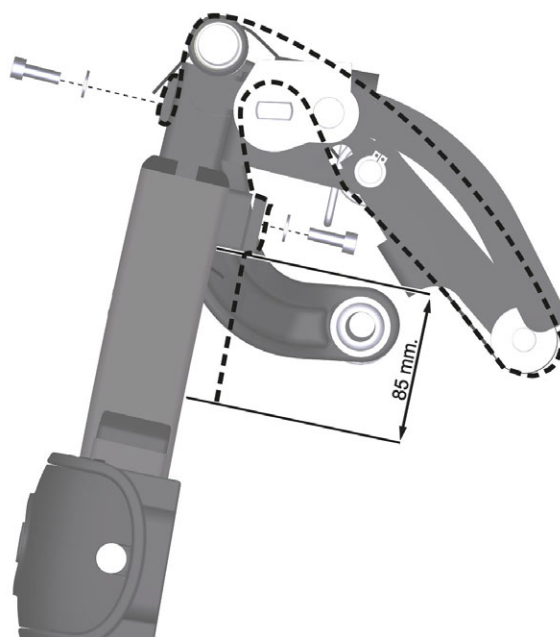

Figure 229. Strap assembly on the legrest.
- 1 Allen key 3 mm.
3. Remove one end of the legrest strap by carefully raising the lower section of the legrest slightly and at the same time removing the two screws on the front of the legrest. Pull the assembling plate out of the loop of the strap. See fig. 229.
3. Slide the upper and lower sections of the legrest together, and pull the legrest strap through the legrest mechanism. See fig. 229.
4. Place the assembling plate in the loop of the strap and then assemble this on the front of the legrest using the two screws. See fig. 229.